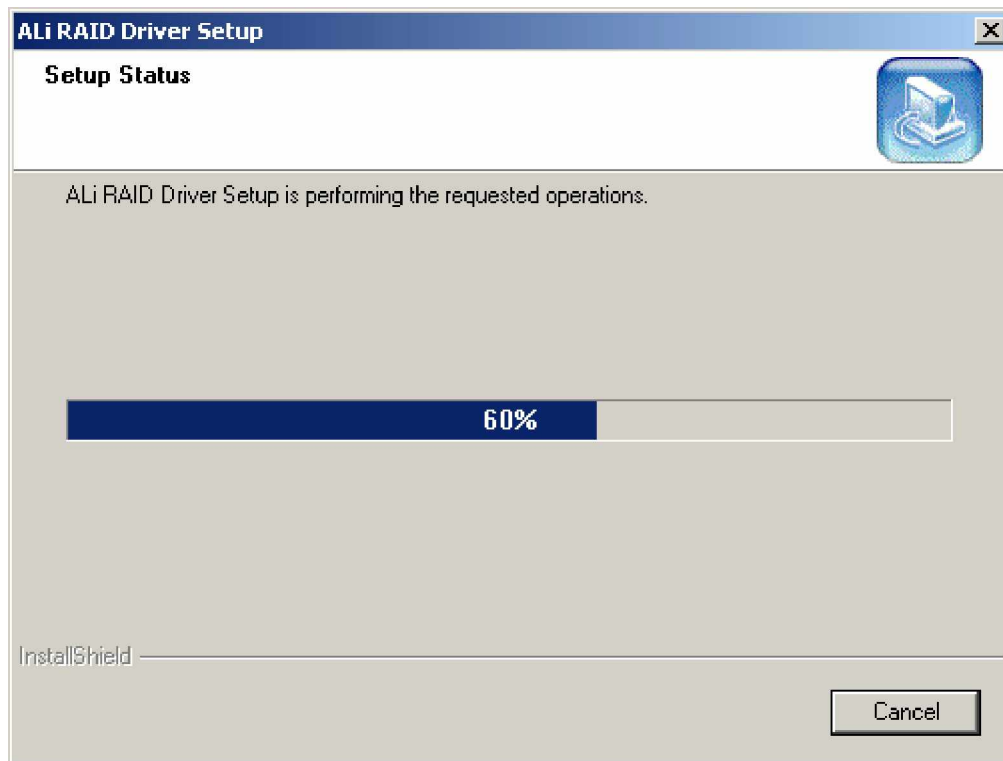

Figure 6-28: Installing Screen
Step 6: The **Install Wizard** starts to install the driver (**Figure 6-28**).